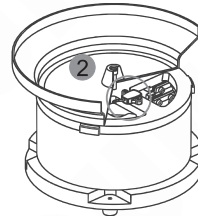

Fig. 2
- Method 2: As shown in Fig. 2